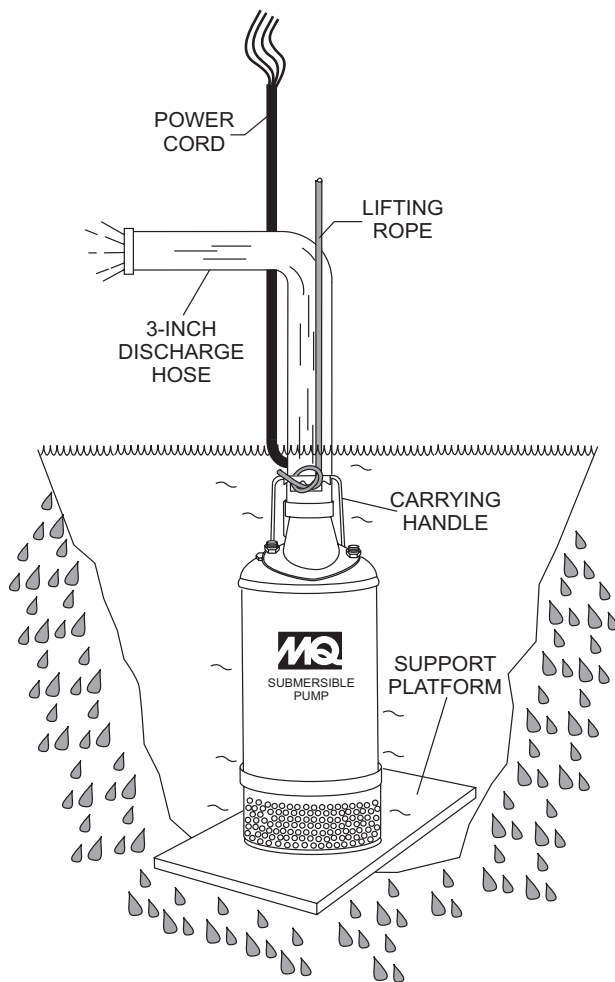

Figure 16. Submersible Pump Upright Position (Correct)
1. Attach a suitable lifting cable (rope) to the carrying handle (Figure 16) on the pump and lower the pump into place. For applications where there is an excessive amount of mud, grit or silt, the use of a support platform is desirable. When pumping water from swimming pool type applications where there is little or no debris, the support platform is not required.